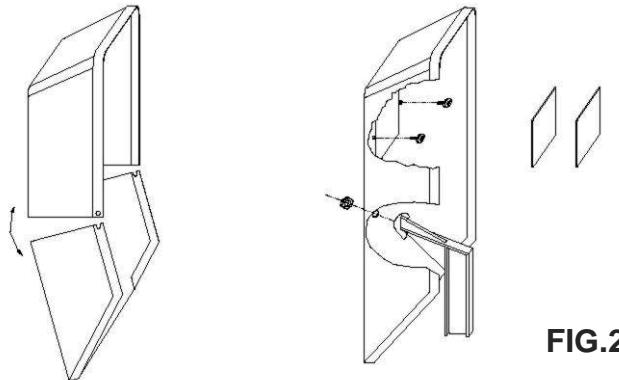

FIG.2
2. In order to assemble the handheld (Fig.2); insert the plastic protection shield in the special opening fixing it with the two screws. Place the handle fixing it in the slit of the protection mask, push it and rotate it by 90° until it enters into the hole inside the protection mask.